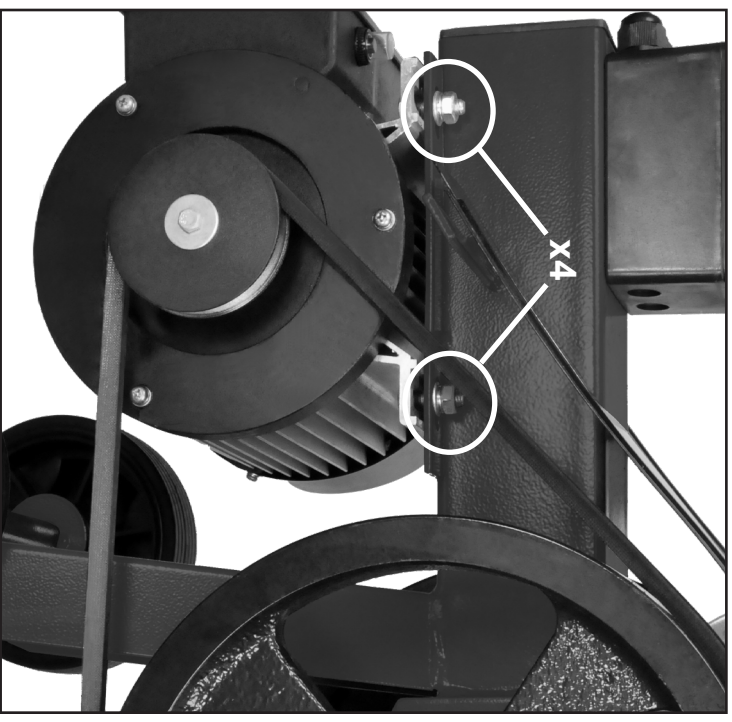

FIGURE 4
4. Loosen the four 13mm Hex Nuts (PT#92) and slide the motor towards the Flywheel (PT#97), Figure 4.